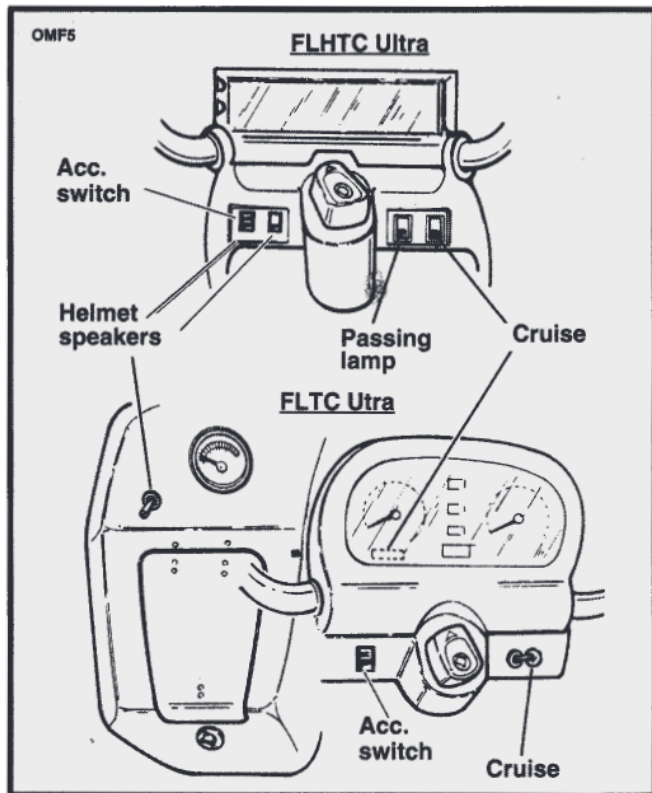

Figure 5. Cruise, Speakers, Acc., Passing Lamp Controls
See Figure 5. Use the passing lamp switch to turn on the passing lamps as required.
See Figure 5. The RED lamp on or near the switch, indicating CRUISE ON, will light.
3. See Figures 5 and 10. The GREEN lamp on the gauge panel, indicating CRUISE SET, will light.
See Figure 5. All FLT models, including the FLHR, have an accessory switch for the owner's use. There is an accessory connector, located under the seat, that can be activated with the ACC. switch. The switch is located on the left side of the fairing or triple clamp shroud. See your dealer for possible